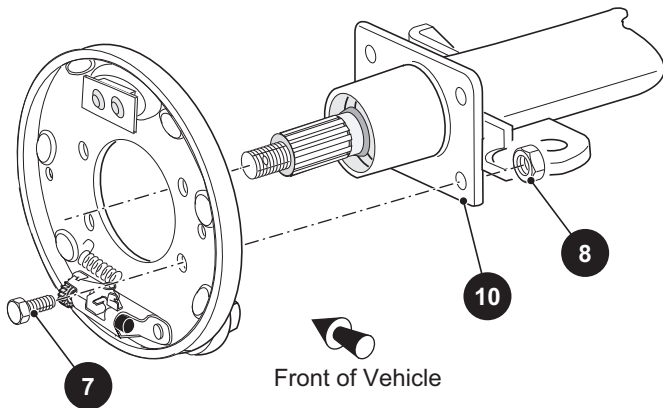

Fig. 22 Backing Plate Removal and Installation
4. Remove the bolts (7) and lock nuts (8) securing the wheel brake backing plate to the flange (10) on the axle tube (Ref Fig. 22).